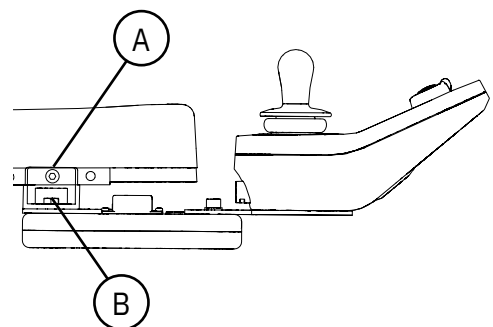

Figure 5.2. ParaLoc.
Control unites can be mounted using two types of attachment, a control arm and ParaLoc (optional). The control arm is articulated at two points and allows movement of the control unit towards the inside and outside of the armrest. The joints can either be locked in a fixed position or be mobile with an adjustable resistance. With ParaLoc, the control unit retains its forward direction when the control arm is rotated outwards or inwards. ParaLoc has a lock mode; this is normally placed straight ahead of the armrest. You can also adjust the lock mode by adjusting the magnetic arm, see Figure 5.2. The depth of both types of attachment can be adjusted and the attachment can be mounted on the right or left side.
ParaLoc is adjustable in depth (A) and is able to adjust the position of the magnetic arm's lock mode (B), see Figure 5.2.